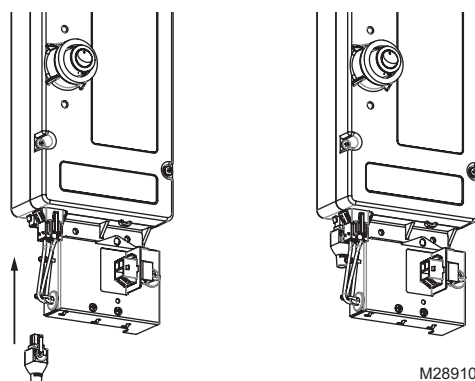
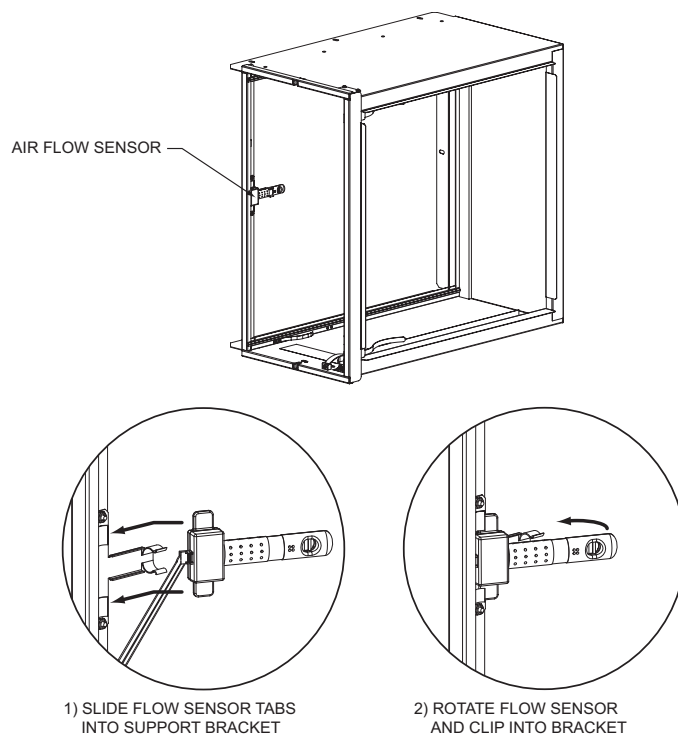

Fig. 12. Airflow sensor Bypass Jumper Plug installed.
Fig. 14. Airflow Switch installation.
NOTE: The Honeywell Enhanced Air Cleaner should only be powered when airflow is present. An airflow switch is factory-installed. See Fig. 1 on page 4 and Fig. 14 on page 16. In order to bypass the airflow sensor for troubleshooting, use the special bypass jumper plug (see Fig. 12) included in the parts bag. With the bypass jumper in place, the air cleaner will be on at all times when connected to electrical line power. The bypass jumper is not to be used for normal operation.
- b. Remove the enhancement module from the Honeywell Enhanced Air Cleaner cabinet and inspect the airflow switch (see Fig. 14 on page 16).